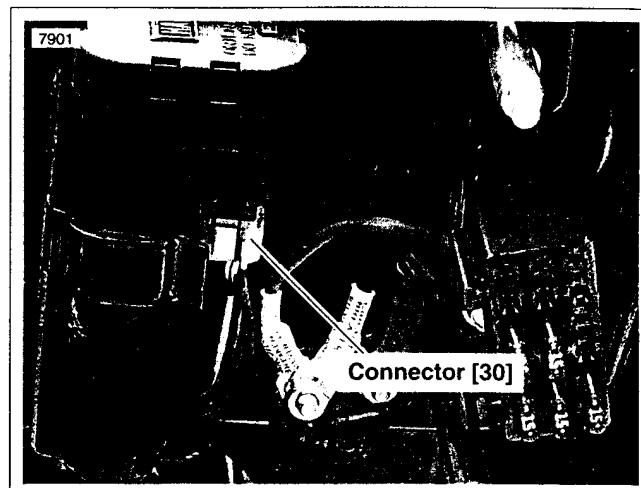

Figure 8-43. TSM/TSSM Module Mounting
5. See Figure 8-43. Unplug turn signal module connector.
2. See Figure 8-43. Plug in TSM/TSSM module connector.